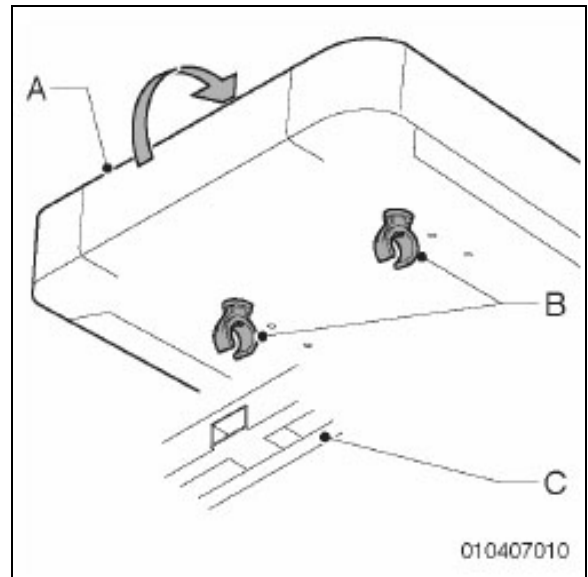

Figure 3.13
1. Pull up the seat (A in fig. 3.13) in the front.
2. When replacing the seat, the clips (B in fig. 3.13) must click around the frame (C in fig. 3.13) of the chair.